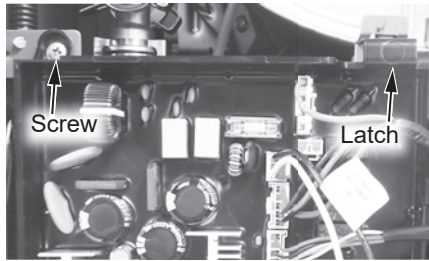

Figure 222 - Control Board screw location
- 13 Locate the two (2) screws at the bottom of the cabinet cover. Use a Phillips screwdriver to remove the screws. Place screws aside in a safe place for reinstallation.
- 15 Locate the screw securing the control board panel. Use a Phillips screwdriver to remove the screw and place it aside in a safe place for reinstallation. See Figure 222.